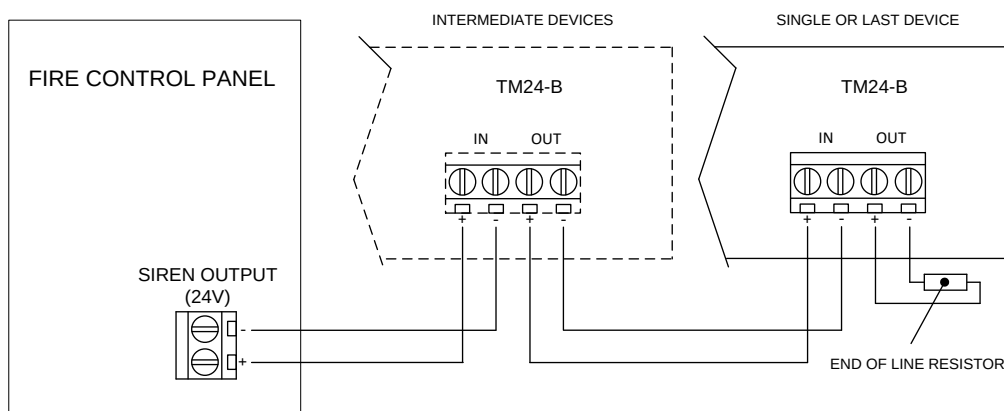

Figure 4 - Electrical connections – Siren output with one or more sounders
- Connect the device TM24-B according to the connections diagram (see *figure 4*).